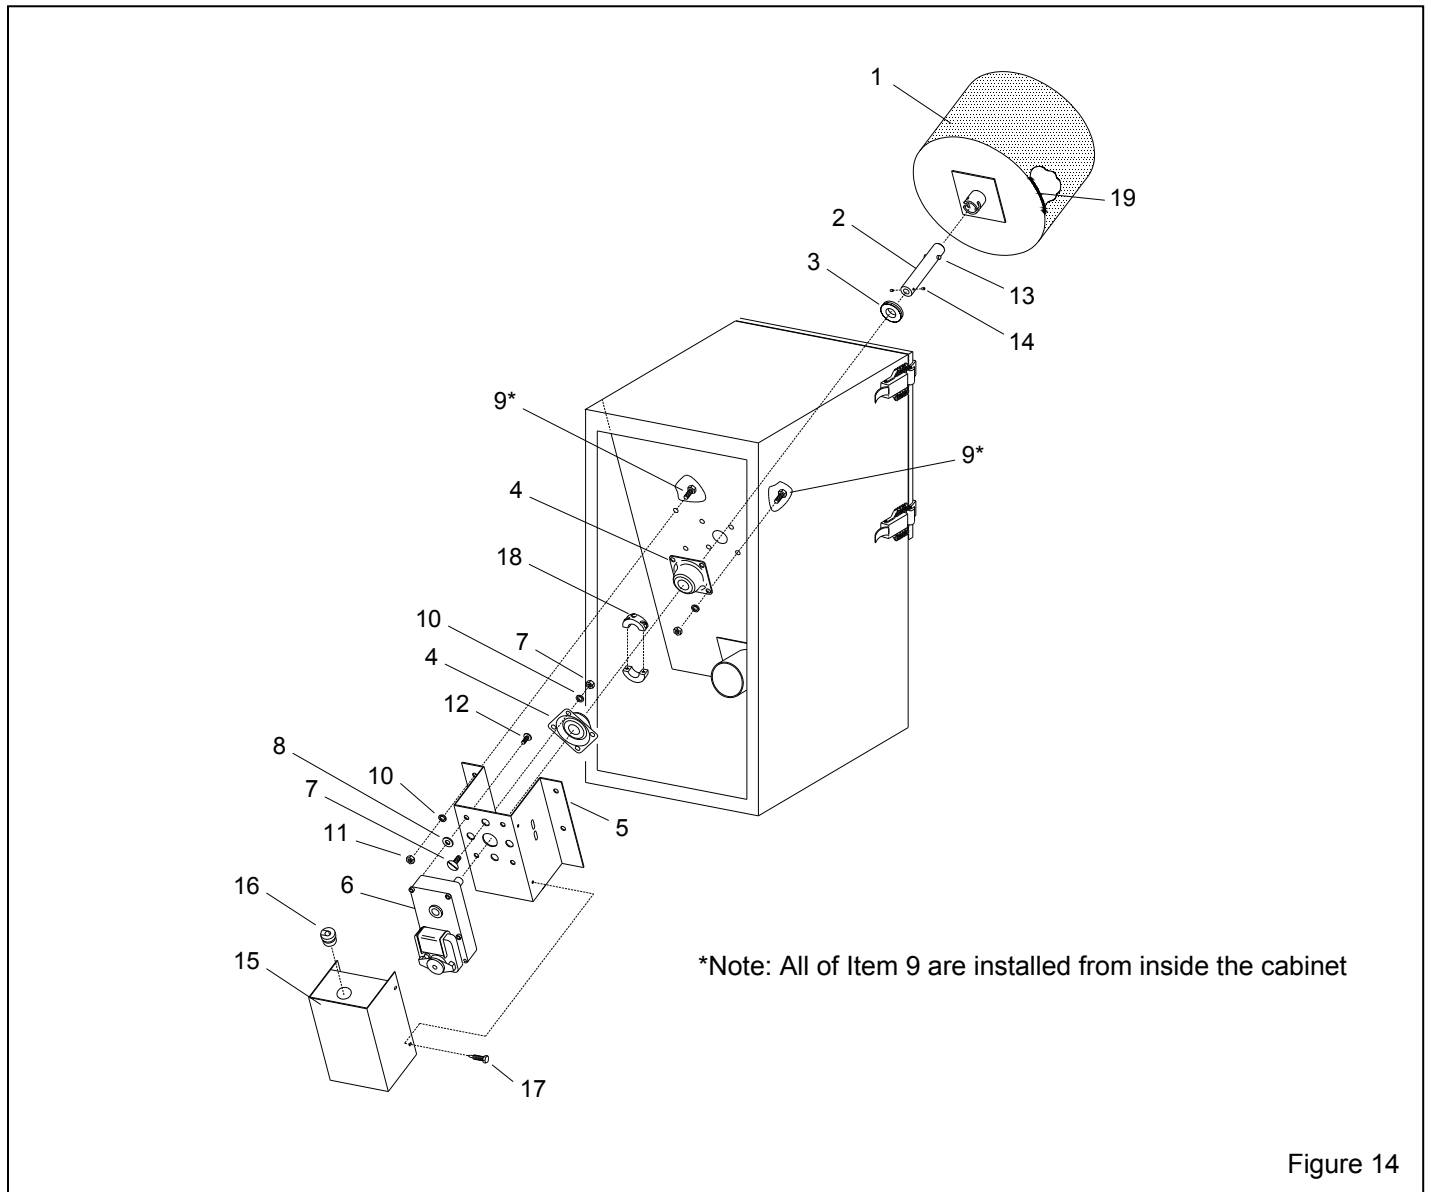

Figure 14
8.3 Basket and Drive Assembly, Figure 14